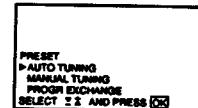

Fig. 7
- 2 Select "PRESET" with $\Delta+$ or $\nabla-$ and press OK. (See Fig. 7.)